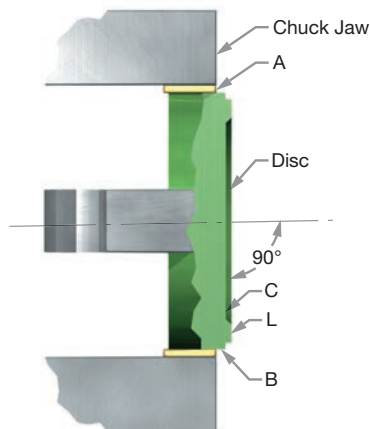

Figure 27: Standard Disc Seating Surface
Machine the standard disc seating surface (see Figure 27) as follows:
1. Grip the disc (6) in a four-jaw independent chuck (or collet, if appropriate), using a piece of soft material such as copper or fiber between the jaws and the disc (see Figure 27).
2. True-up the disc (6) so that the surface marked B and C run true within .001" (0.025 mm) on the total indicator reading (see Figure 27).
or T (Figures 32a, 32b, 32c and Tables 5a and 5b) is reached. Do not reestablish surface C (see Figure 27).